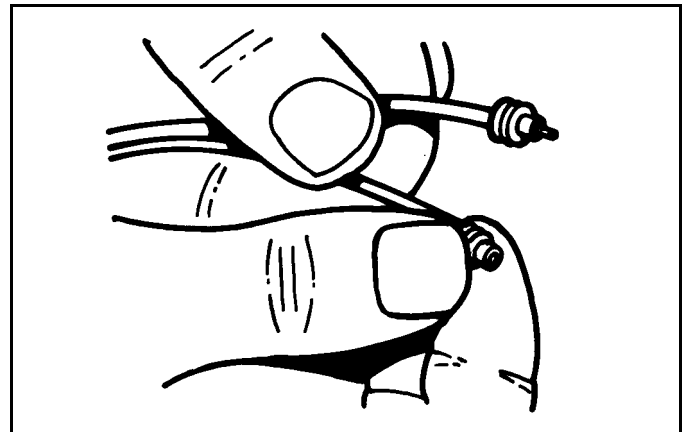

Figure 3-11
3. Install correct size cable seal on wire. (See Figure 3-11)
4. Strip insulation from wire to expose 6mm (1/4 in) and align cable seal with edge of insulation. (See Figure 3-11)